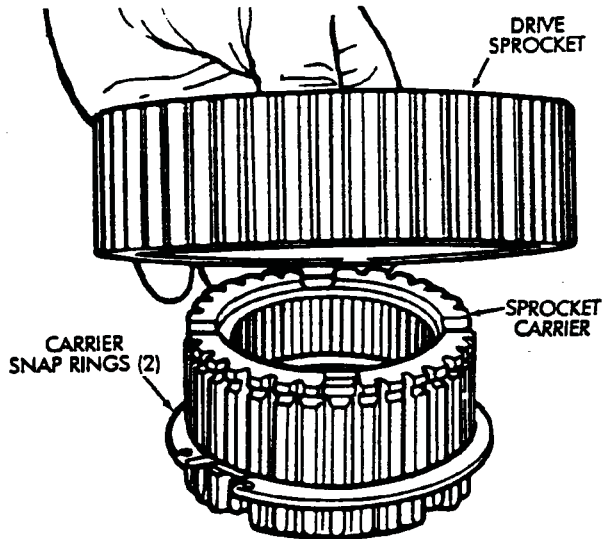

Fig. 4-25 Disassemble Sprocket and Carrier
37. Remove one sprocket carrier snap ring and remove the drive sprocket from the carrier (Fig. 4-25).